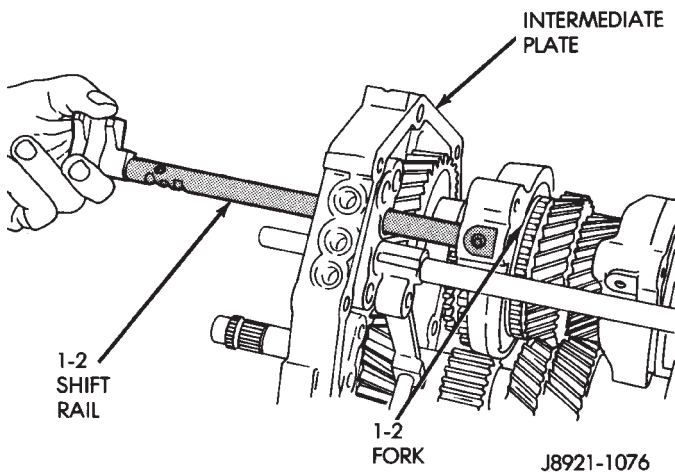

Fig. 87 Install 1-2 Shift Rail
- (16) Install 1-2 shift rail through intermediate plate and 1-2 shift fork (Fig. 87).